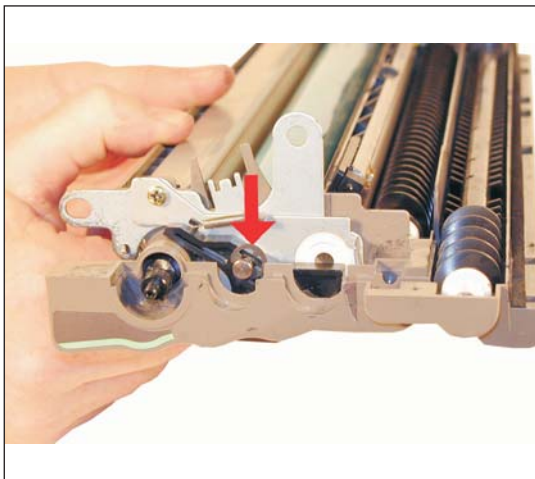

Figure 41
31) Install the E-Ring. See Figure 41